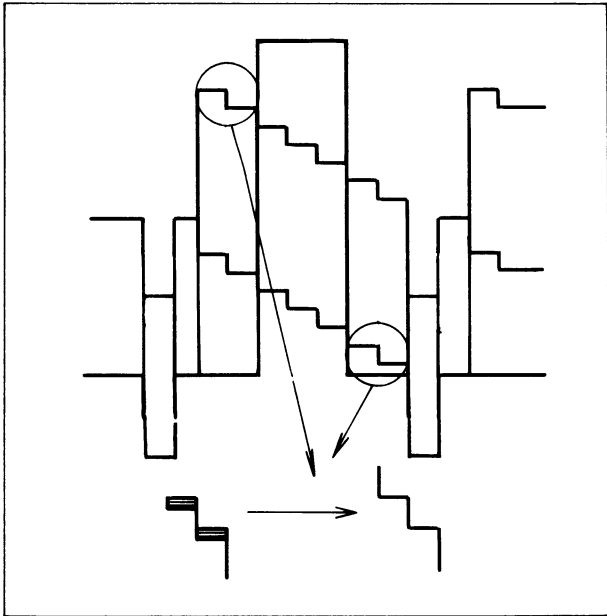

Fig. 5-43. Det. output waveform
- Adjust R38 (Limiter Balance) and R47 (Carrier Balance) alternately, so that the FM signal superposed on the video can be observed to be coinciding as shown in Fig. 5-43 for all of the steps from sync tip to peak white.